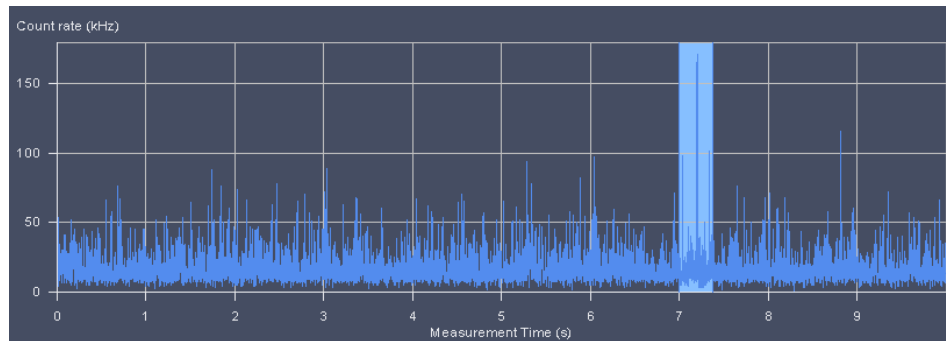

Fig. 270 Count rate trace with cut out regions
- A threshold in % is set by typing in a value into or by using the arrows of the **Deviation to erase peak in Count rate** display window. All measurement points within a binned count rate time window having a deviation of more than the specified value from the average count rate will be cut out and not used for the correlation analysis (Fig. 270). The default value of 10 % can be activated by pressing the **10** button.